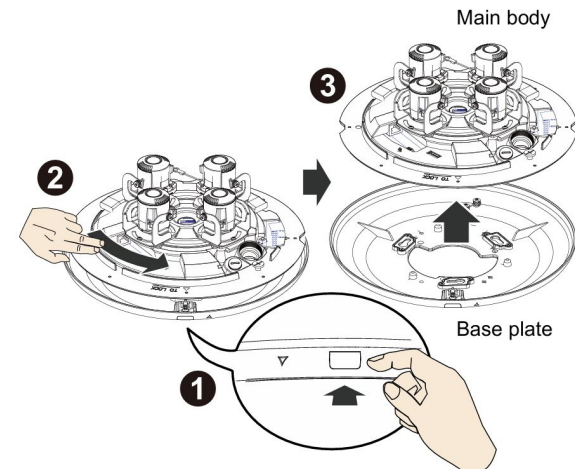

Figure 1-3
Step 3 Press and hold the release button, located on the **Base plate**. Twist the camera **Main body** counterclockwise, then separate the Main body from the **Base plate**. See Figure 1-3.